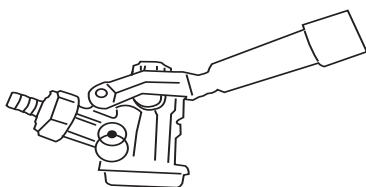

Figure 7
- Insert the keg coupler provided into the locking neck of the beer keg and turn it clockwise to lock into position, making sure the keg coupler is in the closed position. **(See Figure 7)**